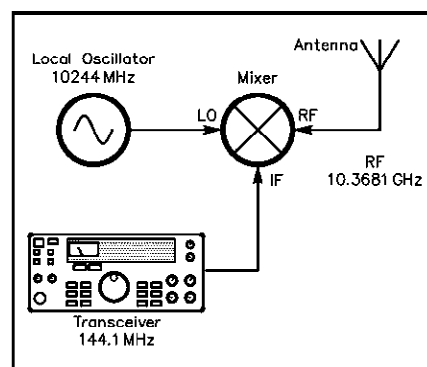

Figure 1—A simplified drawing of a transverter.
Inside the transverter we see the workings of just about any super-heterodyne radio (Figure 1). One important component is a local oscillator (LO) that set to a frequency that is the difference between the transceiver's frequency and the desired microwave frequency. Another is a mixer, which will take two input frequencies and produce their sum and difference.